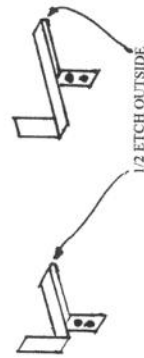

Fig. 18. LAMP IRONS, FOLD UP
a. Fold the lamp irons as shown in Fig. 18.